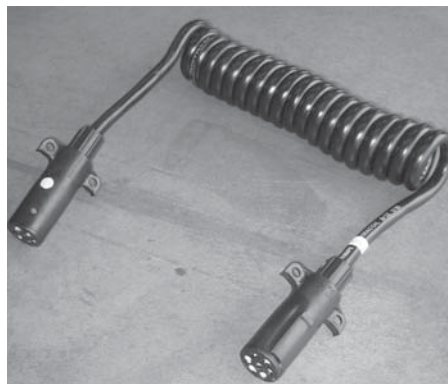

Figure 16 - 7 Pole Connector
- Connect seven-pole connector (see Figure 16) to electrical outlet on tractor. If tractor is not equipped with an outlet, contact tractor dealer for outlet installation.